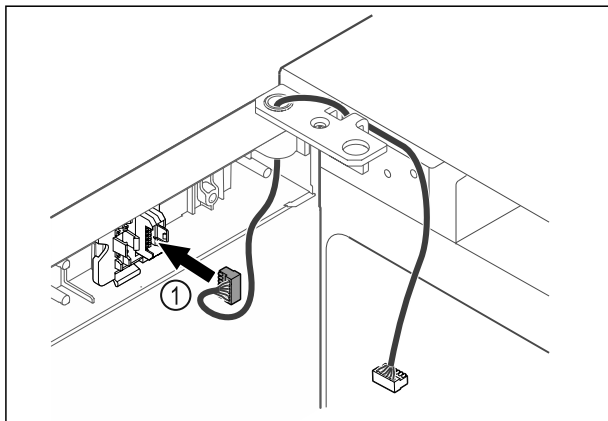

Fig. 63
- Put the plug Fig. 63 (1) in the plug holder.